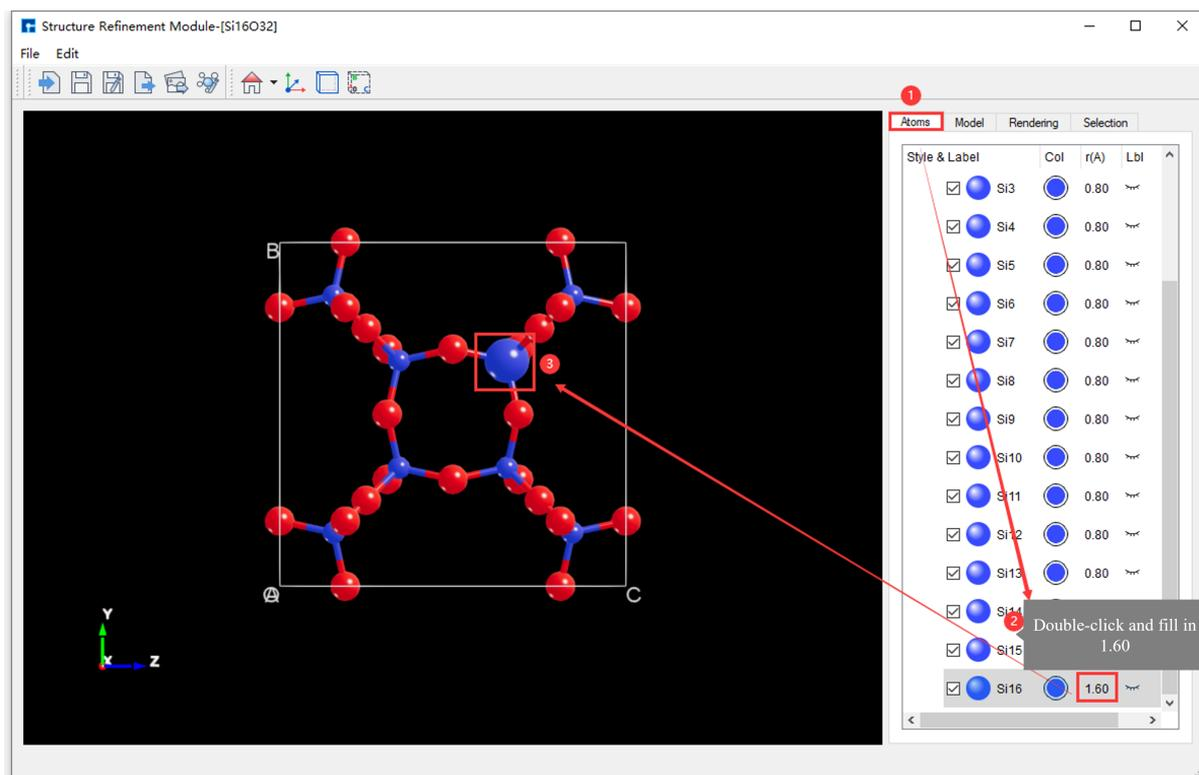

fig. 6.36: Unselected Atoms: Interface for modifying the radius of the Si16 atom in the Si16O32 crystal structure from 0.80 to 1.60.
1. Method 1: Without selecting the Si_{16} atom, as shown in fig. 6.36, the interface for modifying the radius of the Si_{16} atom in the $\text{Si}_{16}\text{O}_{32}$ crystal structure from 0.80 to 1.60 is displayed;